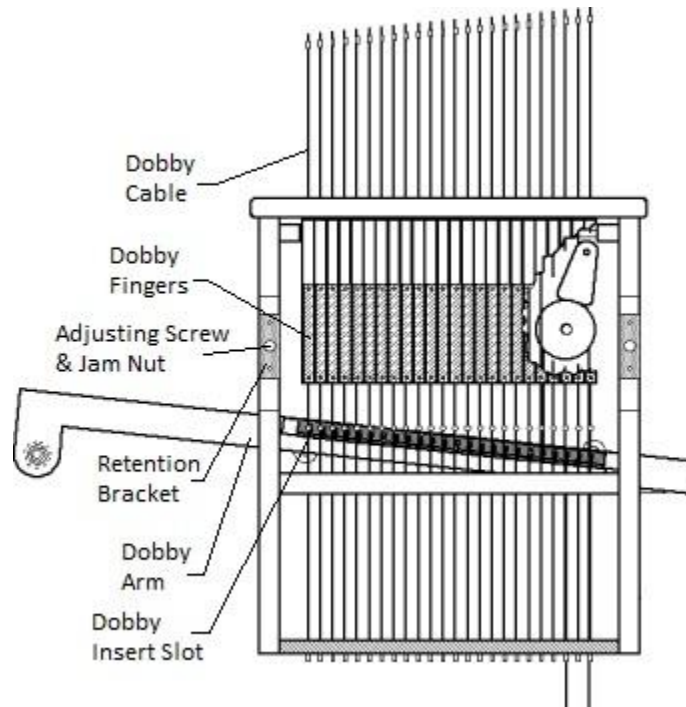

Figure 3: Dobby Head Face
2.2.2 From the front of the Dobby Head (see Figure 3):
- Your goal is to locate the Compu-Dobby unit so that when each solenoid is extended, it pushes the corresponding cable into a slot in the metal bar on the Dobby Arm. (see Figure 3)